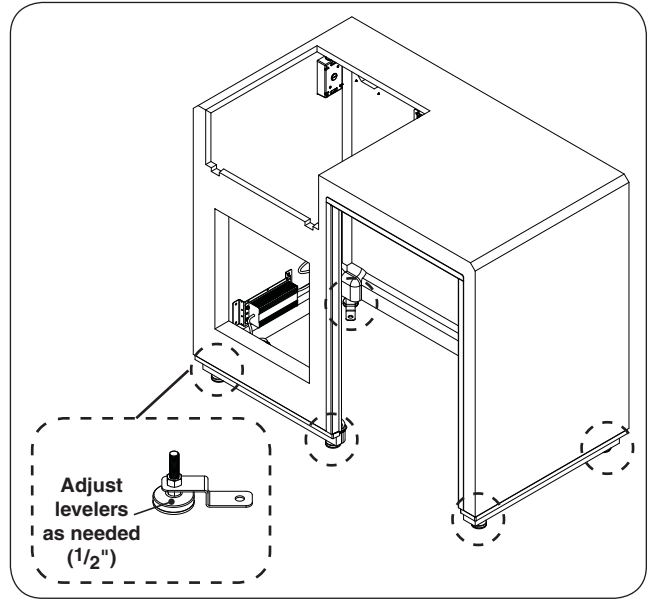

Fig. 7-1 Place and level island
1. **CAREFULLY** place the island in an appropriate location (see Fig. 7-1, and refer back to the LOCATION section if needed).
2. Use the level to ensure the top surface of the island is level. The 5 levelers at the bottom of the island may be adjusted as needed with a $\frac{1}{2}$ " open end wrench (see Fig. 7-1).